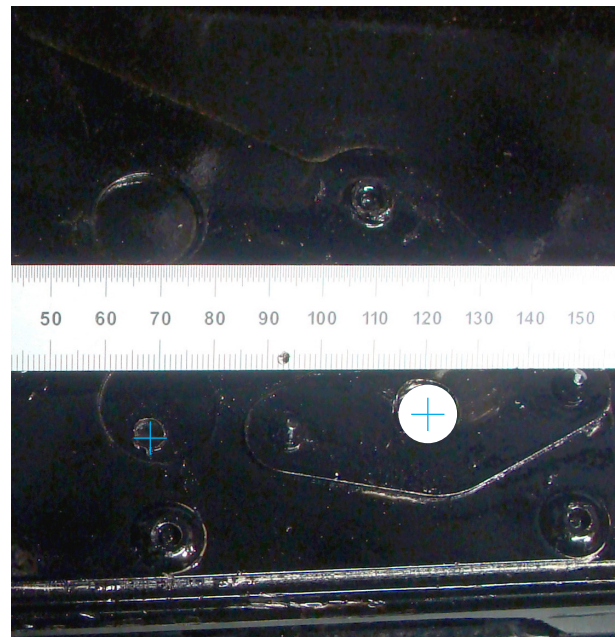

Figure 6: P-clamp drill hole (left), front torque arm mounting bolt (right)
6. Measure 52 mm (2 in) forward of the front torque mounting bolt and make a mark (Figure 6).
7. Measure 190 mm (7.5 in) down from the top of the tunnel and make a mark (Figure 6).